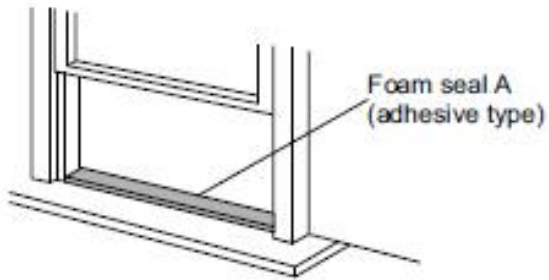

Fig. 9
- 1) Cut the foam seal (adhesive type) to the proper length and attach to the window stool. See Fig. 9.